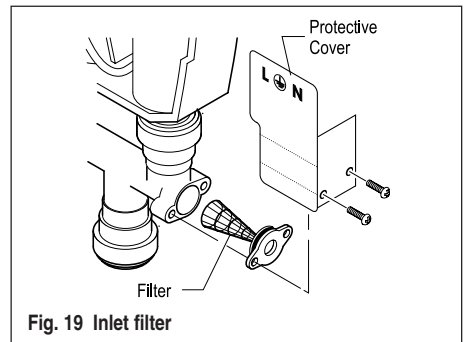

Fig. 19 Inlet filter
4. Unscrew the two screws at the side of the protective cover - see fig.19.